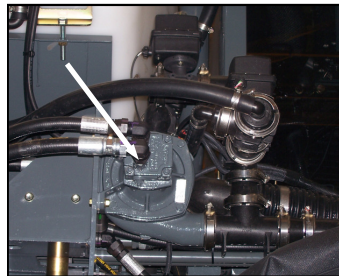

FIG. 48-4
**SOLUTION PUMP**– The solution pump (fig. 48-4) is a centrifugal type hydraulic pump that is controlled by the Pulse Width Modulated Valve (fig. 48-5) and the Raven console (fig. 48-6). The pump draws the solution out of the tank at a rate determined during the calibration of the Raven console. It dispenses it through the many valves and hoses that make up the spray system. The pump is also used for the agitation system and the rinse system.